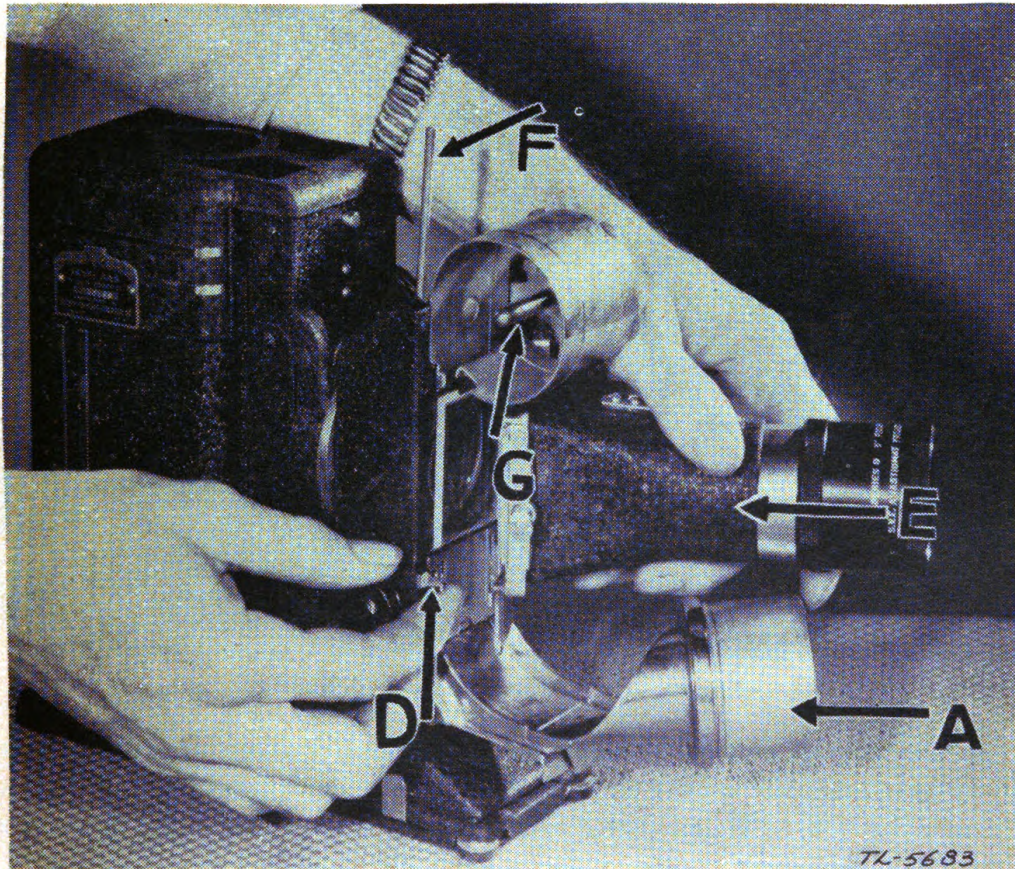

FIGURE 71.—Projector PH-222—showing film gate.
b. Open film gate by releasing catch spring *D* (fig. 71) and swinging lens barrel *E* to the left.